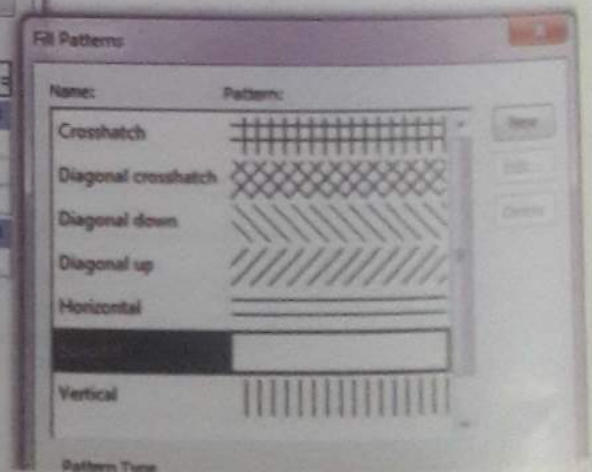

Figure 18: Selecting pattern type
- f. From the properties palette » click on edit type » under other category select the fill pattern type and click ok (Figure 18).